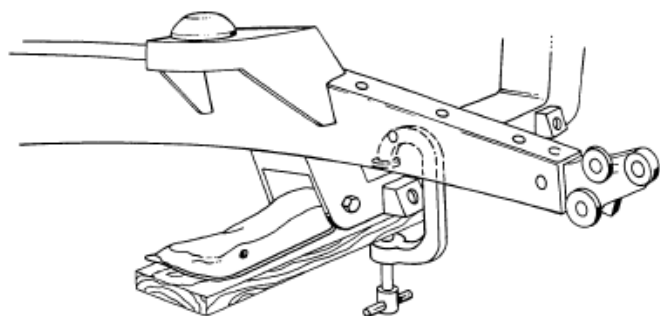

Figure 6- Lower Control Arm Install
11. If you are using factory lower control arms and strut rods you will continue here. Use the lower control arm and strut rod for locating the rear strut rod supports and gussets. Using a 2 x 4 and a C-clamp, install the control arm as shown in **Figure 6**.